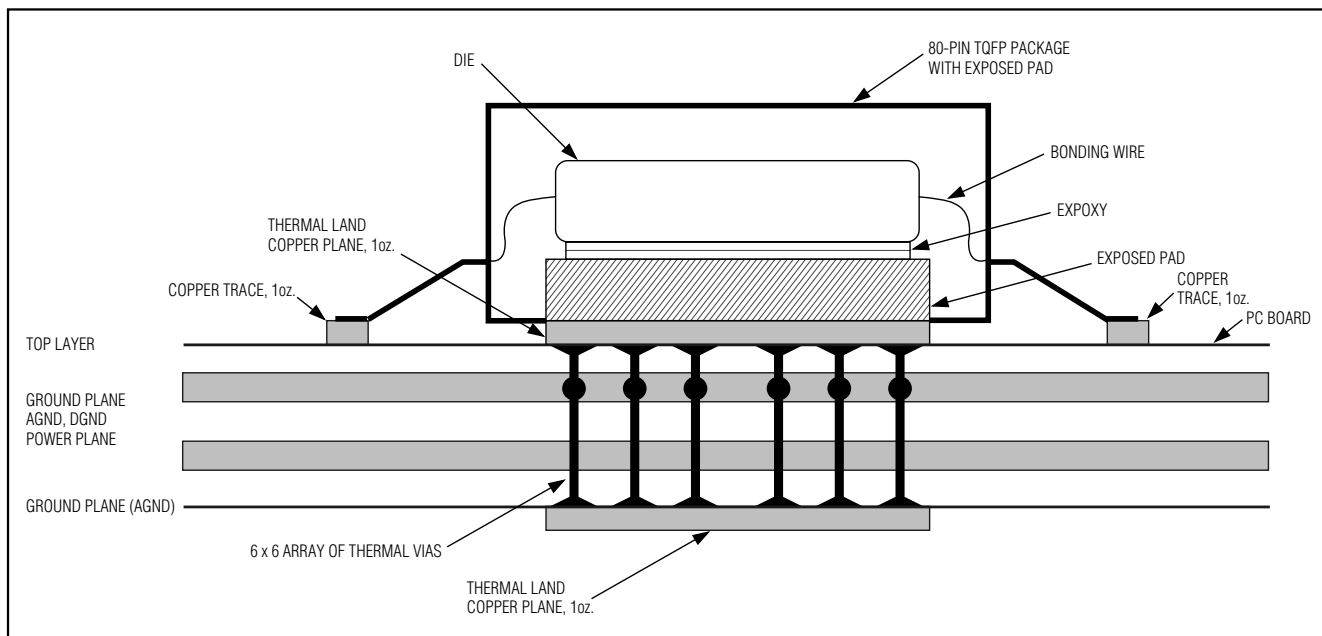

Figure 10. MAX107 Exposed Pad Package Cross-Section
tion-case ( $\theta_{jc}$ ) resistance of  $\approx 1.26^{\circ}\text{C/W}$ . In this package, the data converter die is attached to an exposed pad (EP) leadframe using a thermally conductive epoxy. The package is molded in a way, that this leadframe is exposed at the surface, facing the printed circuit board (PC board) side of the package (Figure 10). This allows the package to be attached to the PC board with standard infrared (IR) flow soldering techniques. A specially created land pattern on the PC board, matching the size of the EP (7.5mm x 7.5mm) does not only guarantee proper attachment of the chip, but can also be used for heat-sinking purposes. Designing thermal vias\* into the land area and implementing large ground planes in the PC board design, further enhance the thermal conductivity between board and package. To remove heat from an 80-pin TQFP package efficiently, an array of 6 x 6 vias ( $\leq 0.3\text{mm}$  diameter per via hole and 1.2mm pitch between via holes) is required.